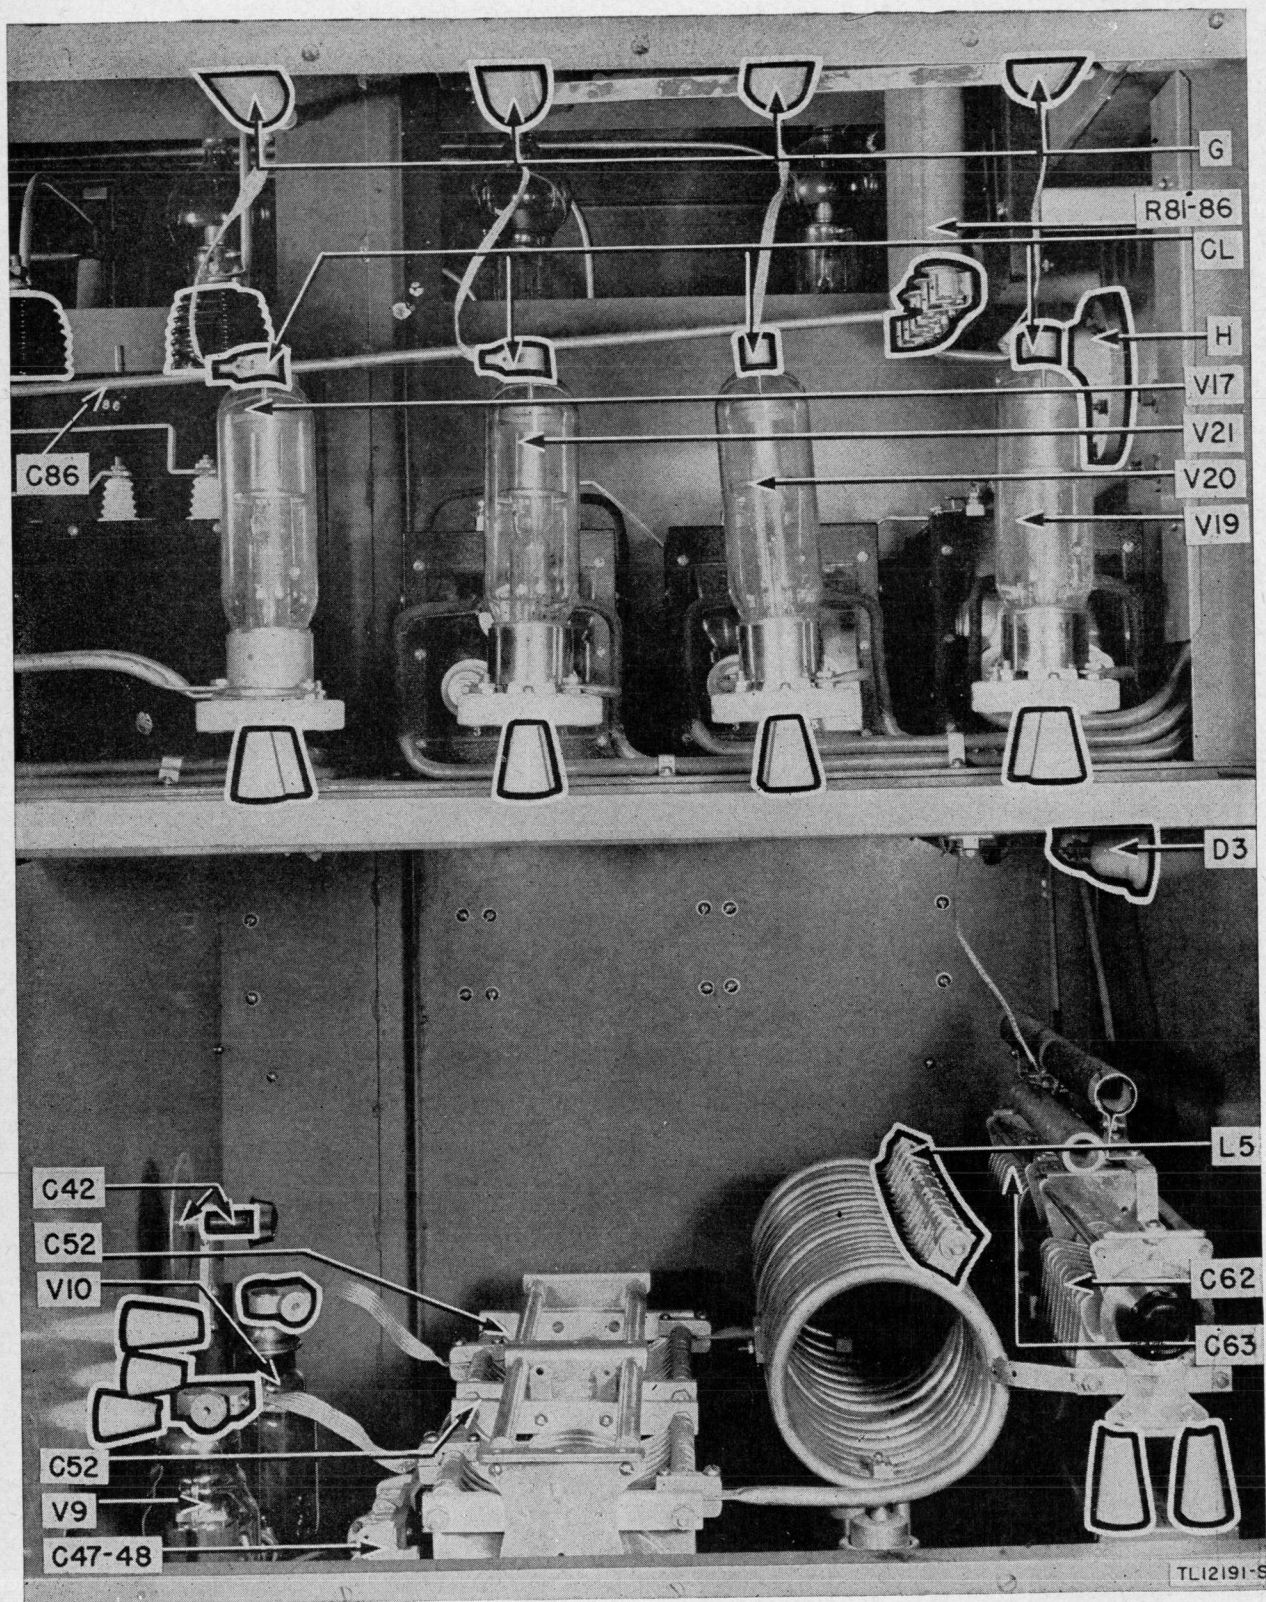

Figure 30. Power and first amplifier units.
(c) Remove resistors R81 through R86. (See fig. 30.)
(3) *First Amplifier Unit.* Remove the two triode amplifier Tubes JAN-HF-300, V9 and V10. (See fig. 30.)
**d. MASKING.** (1) *Power unit.*
(e) Mask the capacitor terminal insulators of C86. (See fig. 30.)
(h) Mask the high-voltage feedthrough insulator H. (See figs. 30 and 32.)
(i) Mask the terminal clips of R81 through R86. (See fig. 30.)
(3) *First amplifier unit.* (a) Mask the grid and plate connectors of the two Tubes, JAN-HF-300 V9 and V10. (See fig. 30.)
(c) Mask the threads of variable capacitor C42. (See fig. 30.)
(d) Mask the wiping contacts and contact surfaces of variable capacitors C52, C62, C63, C47, and C48. (See fig. 30.)
(e) Mask the shorting bar contacts of L5. (See fig. 30.)
(h) Mask the feedthrough insulators D3. (See figs. 30 and 32.)